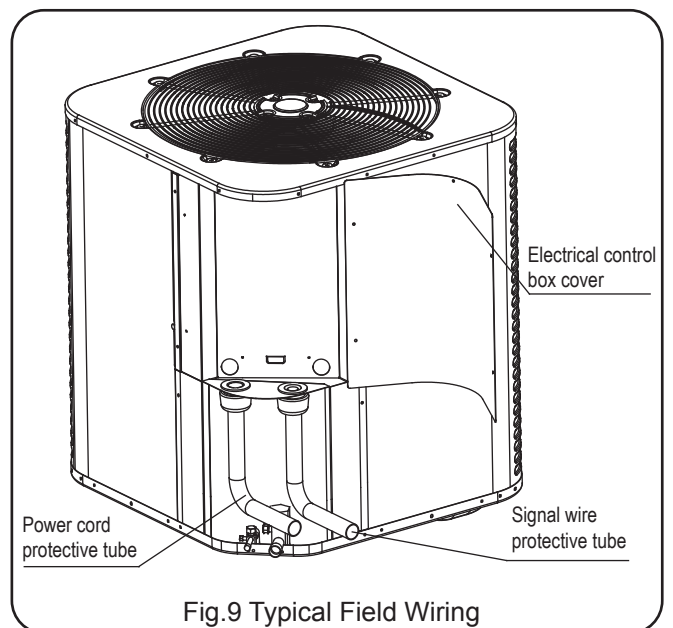

Fig.9 Typical Field Wiring
2. Remove the screws at the side of the corner cover. Slide the corner cover down and remove from the unit. (See Fig. 9)